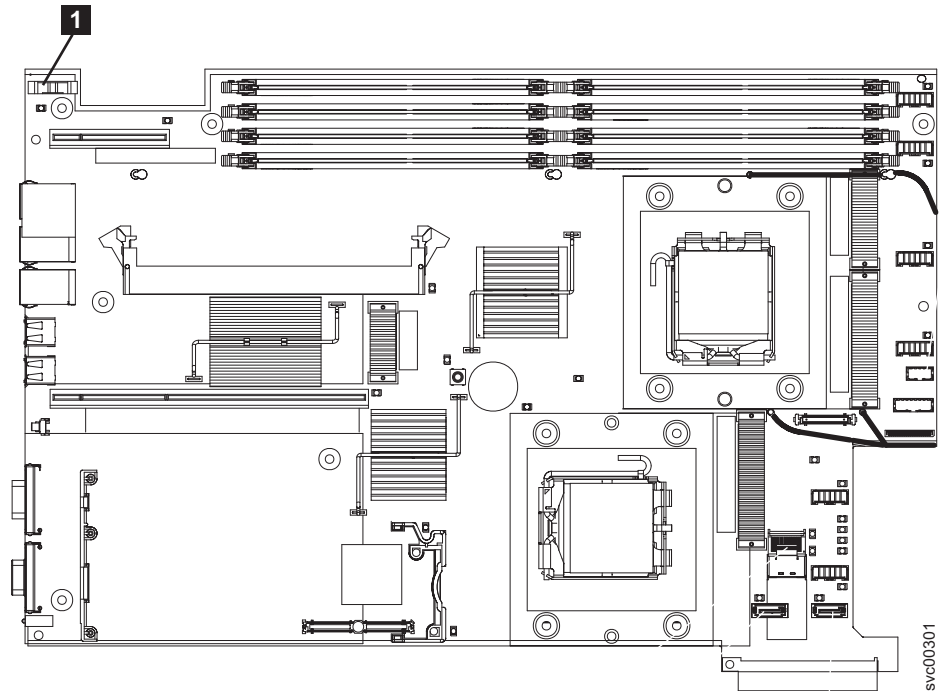

Figure 146. Location of the SAN Volume Controller 2145-8G4 CMOS battery holder
2. Locate the battery on the system board. Figure 146 on page 163 shows the location () of the battery.